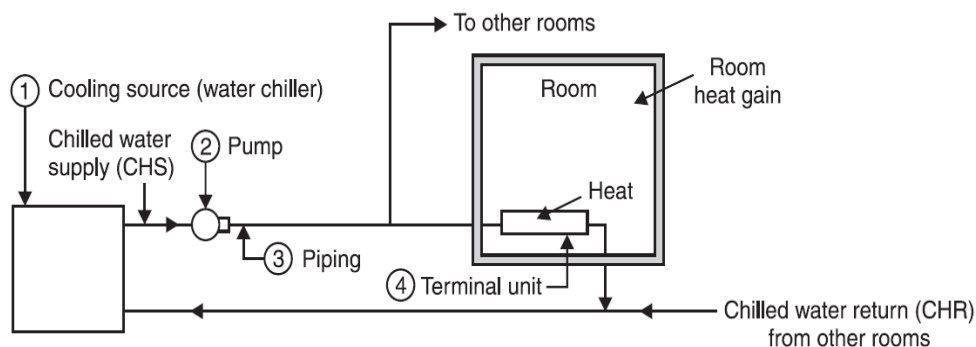

Fig. 3.2 Arrangement of basic components of a (hydronic) chilled water-cooling system
A hydronic cooling system Fig. 3.2, functions in a similar manner to the hydronic heating system. Water is cooled in refrigeration equipment called a water chiller (1). The chilled water is circulated by a pump (2) and travels to each room through piping (3) and enters a terminal unit (4). The warmer room air loses its heat to the cold water in the terminal unit. Since the water is now warmed, it must return to the water chiller to be re-cooled.